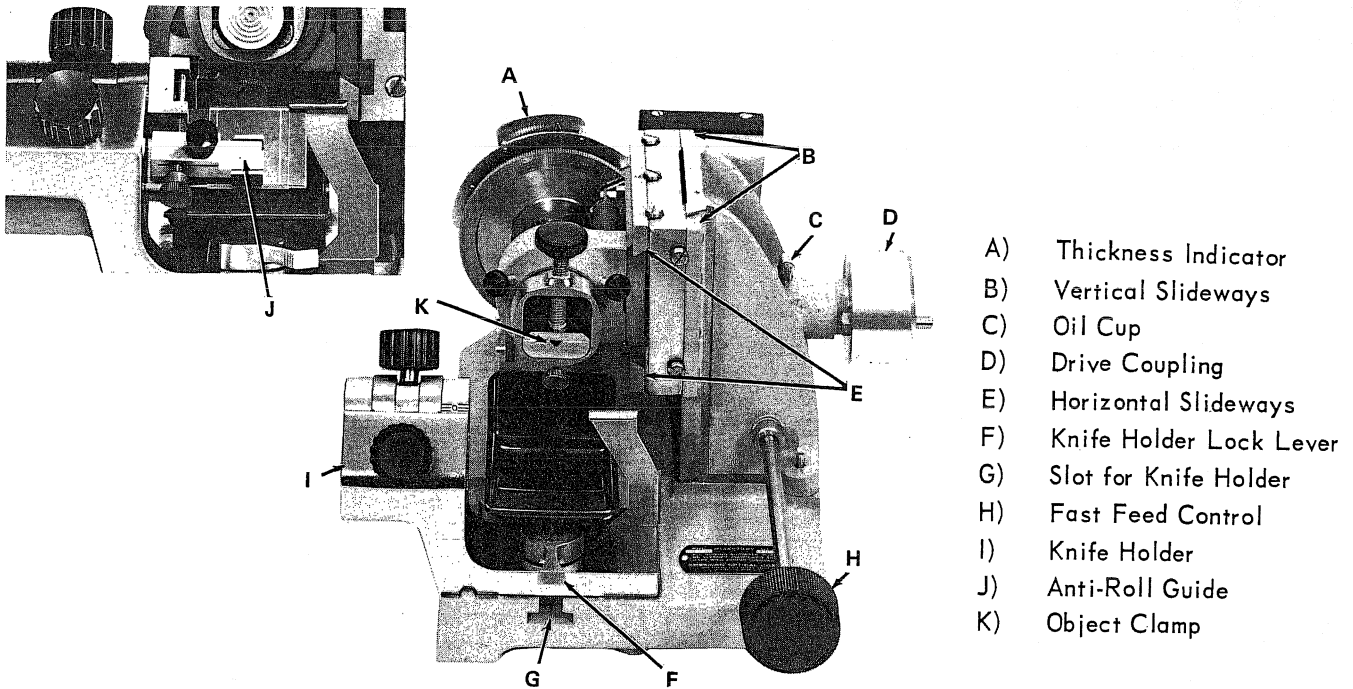
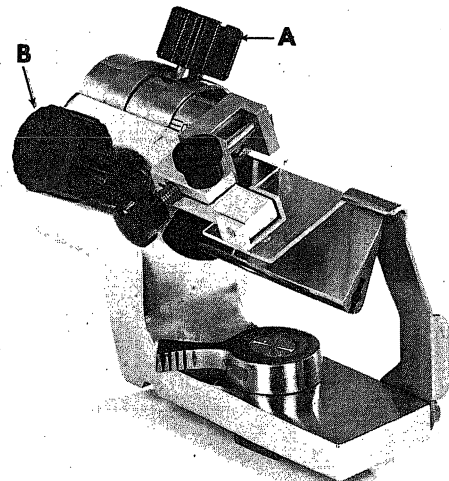

Figure 6
Figure 11
2. Lubricate the vertical and horizontal slideways of the microtome (see Figure 6) with the special lubricant provided.
The knife holder has been designed specifically for HISTOSTAT Microtome work. Three simple controls make it extremely easy to use. The knife is held rigidly at only one end to greatly facilitate removal of cut section on the microscope slide. The holder slides forward and back in the slot G shown in Figure 6, and should be locked into position with lever F, flush with the front edge of the base or not further than 1/4 inch in from the edge. The knife guard as shown in Figure 10, swings out of the way for removing or installing the knife. When the knife is installed, the knife guard should be swung up into the position as shown in Figure 11, to shield the corner of the knife.
The operator should become familiar with properly inserting the knife in the holder, by removing the holder from the microtome and examining the internal locking mechanism. Refer to Figure 11. When knob A is turned, the knife is drawn up by an internal U-shaped piece called a "clevis", and wedged into the opening to hold the knife securely. When knob A is released, and tapped downward, the clevis lowers and the knife is released, permitting withdrawal. When inserting the knife, care must be taken to prevent tilting the corner of the knife upward to hit the screw which engages the clevis from knob A. When the knife is inserted straight, ample clearance is provided.
As one end of the knife becomes dull, it can be reversed 180° to use the other half. Knife angle is accomplished by releasing knob B shown in Figure 11. An arbitrary scale of 5° increments is provided to show the degree of tilt. Position 0 (second line from the top) will give the following knife clearance angles with an AO Reichert 942 knife.
The clearance between the knife and guide should be set to approximately 30° , Figure 11.